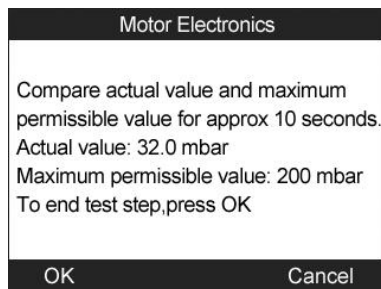

Figure 11.44
- e) Check the exhaust backpressure with engine running at cut-off speed. The tool will read off the actual backpressure value and compare with the upper limit. (Figure 11.44). Select **OK** to end the test or **Cancel** to return to previous menu.